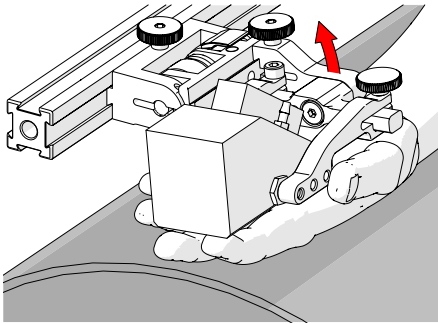

Fig. 195 - Lift to Latched position
1. Ensure probe holder is in latched, upper position (Fig. 195). If the probe holder is already latched, it will only move within the slip joint adjustment range and have no spring tension.